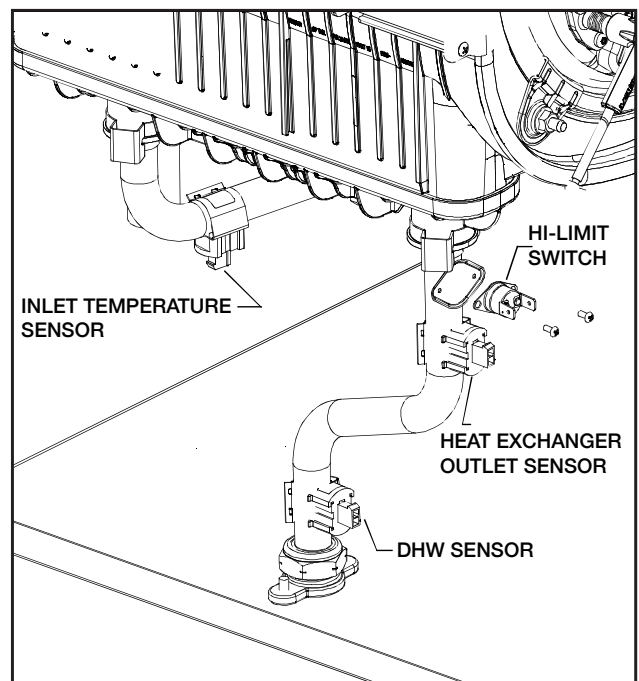

Figure 5.7 - Water heater sensors
5.6.3 High Limit Switch (Figure 5.7)
5.6.4 Water Sensors (see Figure 5.7)